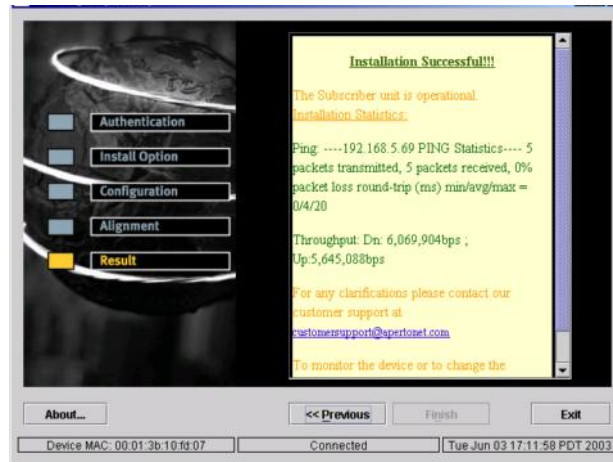

Figure 5-19 Test Results Window
4. The Test Results window shown in Figure 5-19 will be displayed, and the test results text file will be updated.
4. After configuration has been completed, the AIM will reset the PacketWave 200, enable audio auto-alignment, and display the Provisioning Results window similar to that shown in Figure 5-19.